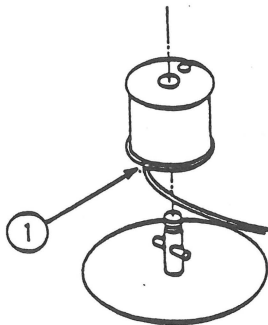

FIGURE 7
14. Remove the bottom end of the carrier wire from the motor pulley (see Figure 7, #1).